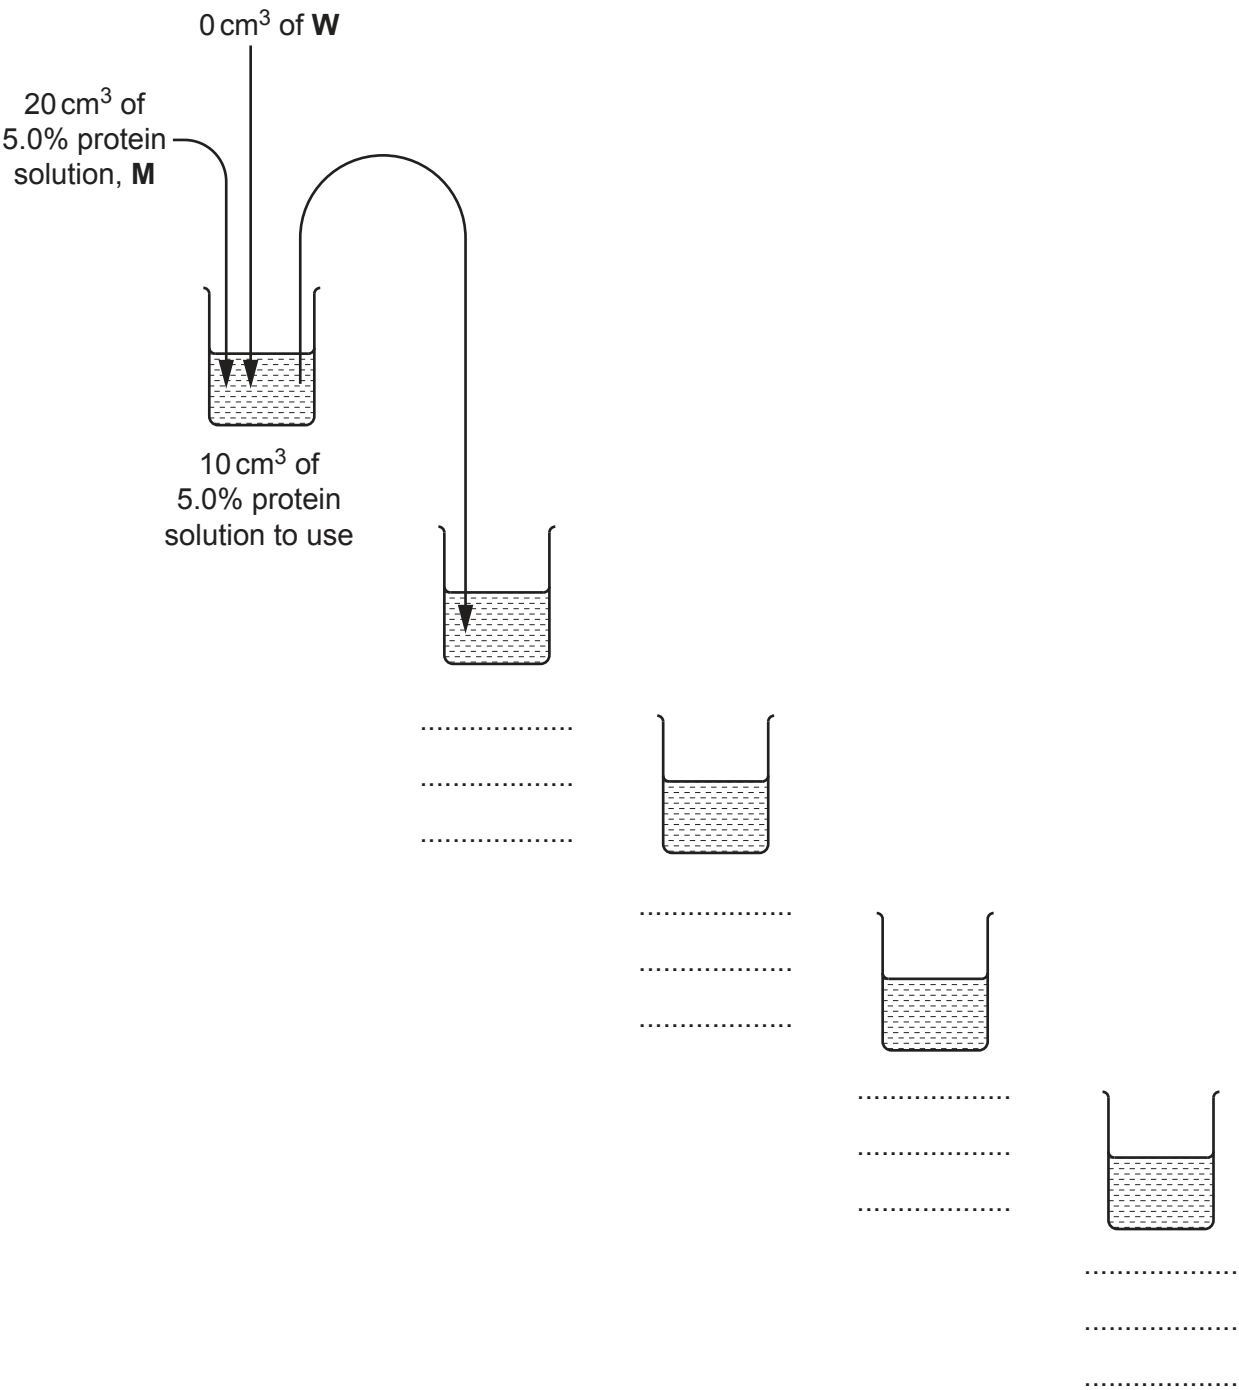

Fig. 1.1
- (a) (i) Complete Fig. 1.1 to show how you will prepare your serial dilution.
Fig. 1.1 shows the beakers you will use.
- step 1 Prepare the concentrations of protein, as shown in Fig. 1.1, in the beakers provided. Mix well.